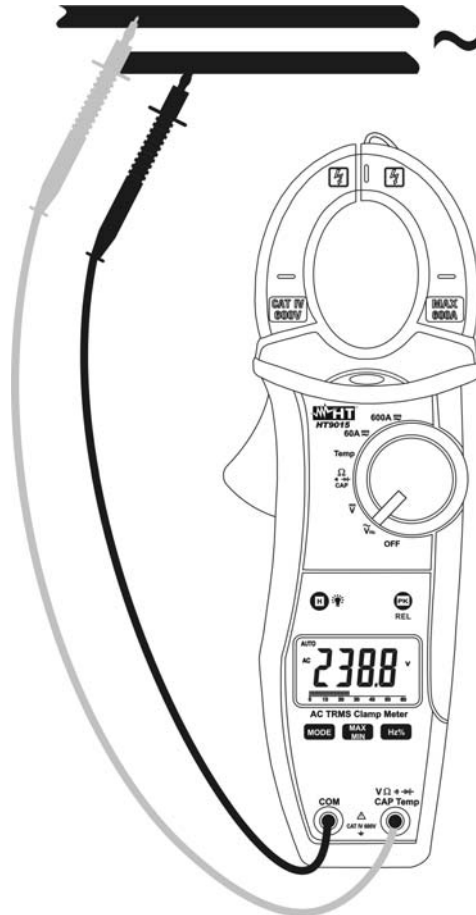

Fig. 3: Taking AC voltage measurements
3. Insert the red test lead plug into **VΩ $\rightarrow$ CAPHz%Temp** jack and the black test lead plug into **COM** jack (Fig. 3)